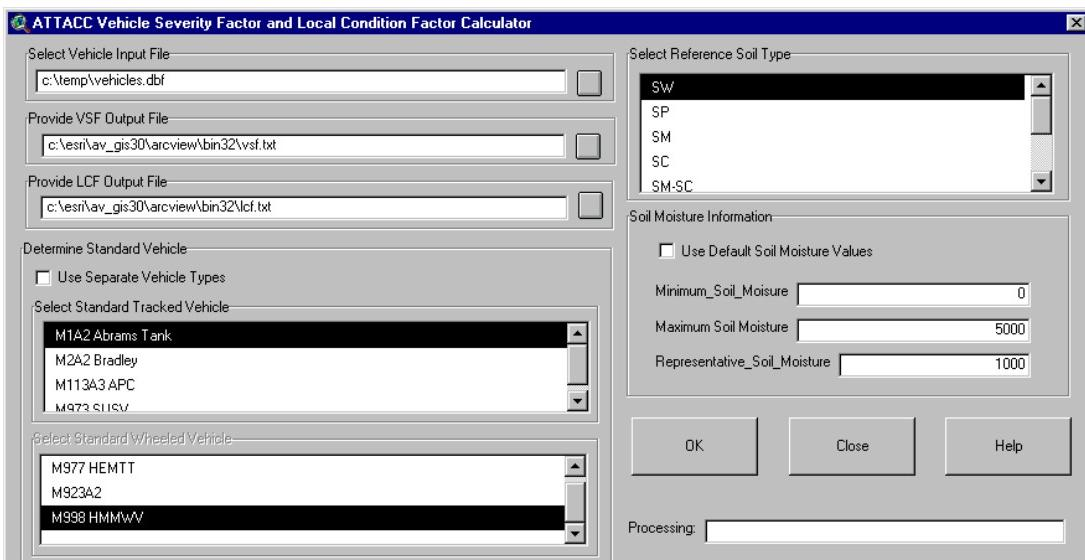

**Figure 5. ArcView window showing ATTACC <VSF/LCF Calculator> button.**
3. After loading the extension, a <VSF/LCF Calculator> button will appear on a project button bar (usually the row of buttons located directly below the menu bar) whenever a project is opened. The <VSF/LCF Calculator> button is not visible if a project is not opened. It will only be visible when the project window is the active window. To run the VSF/LCF Calculator program, press the <VSF/LCF Calculator menu> button, which looks like a tank. Figure 5 shows this menu button.